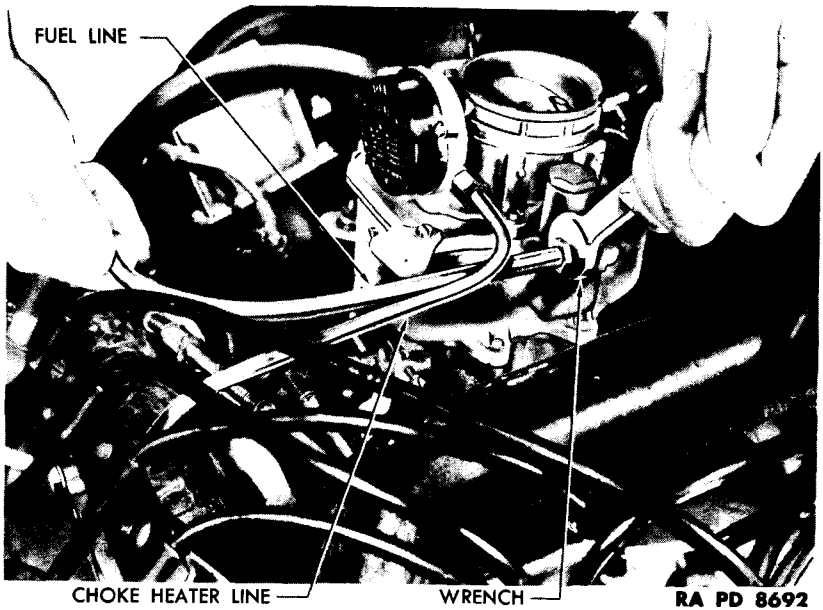
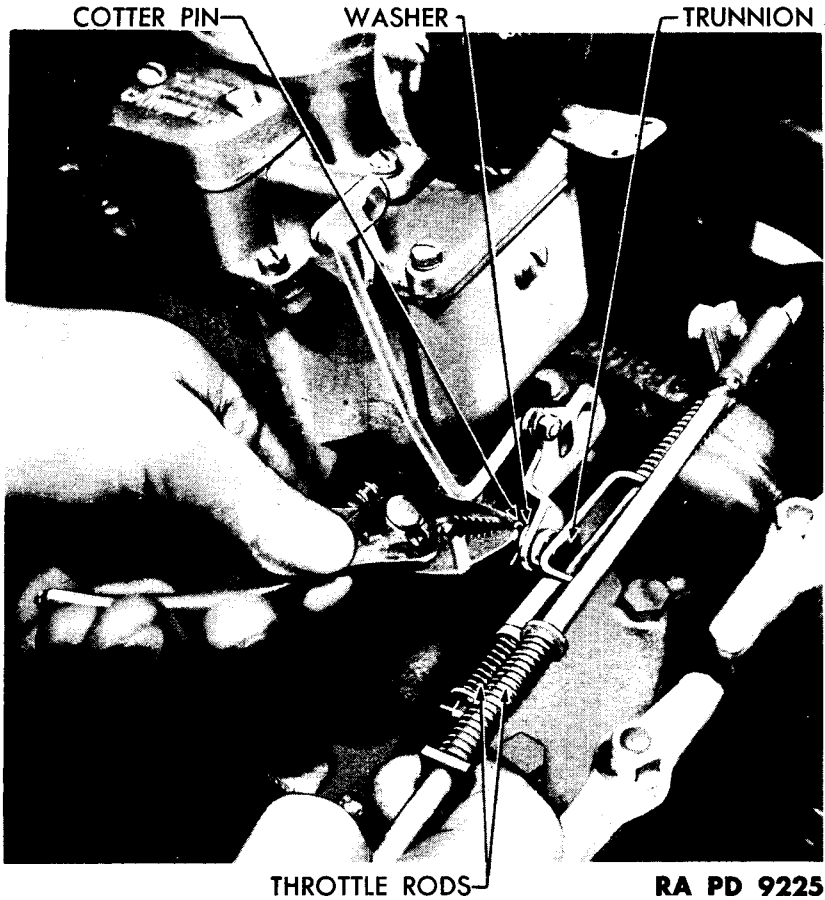

Figure 77 — Removing Fuel Line
Figure 78 – Removing Throttle Rod
c. **Carburetor Removal.** Open engine compartment rear doors. Remove fan, belt and support bracket. Disconnect carburetor air intake pipe at carburetor by loosening clamps. Disconnect fuel and choke heater lines from all carburetors (fig. 77), and drain line from early type carburetors. Remove cotter pin from truunion on carburetor and throttle rod, and remove washer from trunnion (fig. 78). Disconnect throttle rod and trunnion from carburetor. Remove four nuts holding carburetor to intake manifold mounting studs and remove carburetor, insulator, and gaskets.